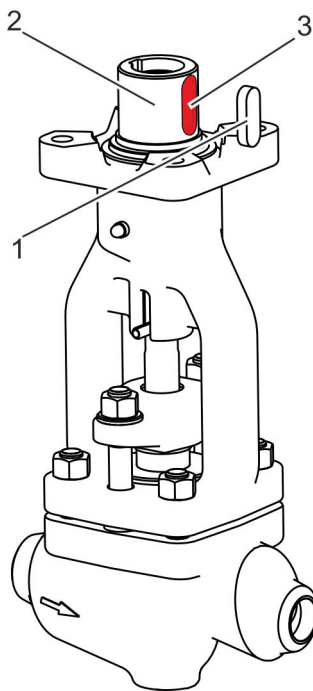

Fig. 36: Removing the feather key
4. ➤ Remove the feather key (Fig. 36/1) from the feather key groove (Fig. 36/3) of the hub (Fig. 36/2) of the threaded bush.